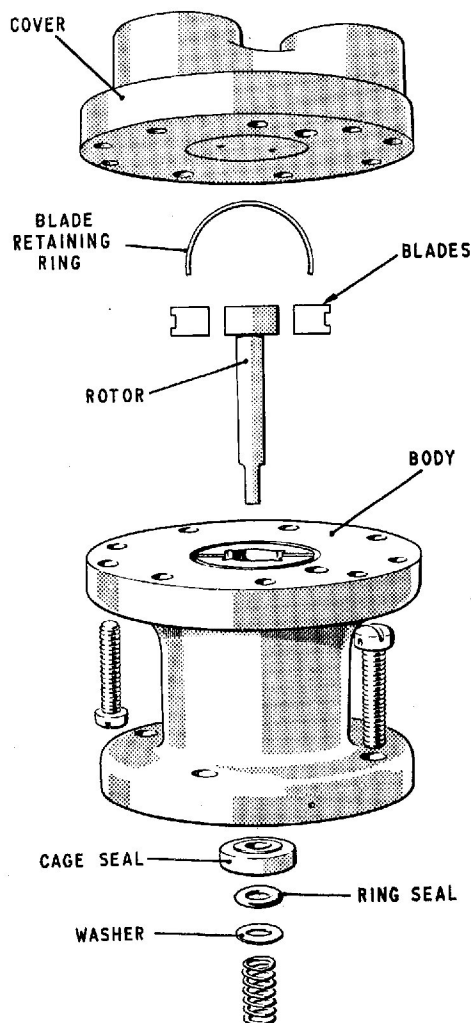

Fig. 2. Exploded view of pump
4. The rotation of the rotor fig. 2 creates a suction within the pump, causing the fluid to be drawn in through the inlet port. The fluid then flows through the hole in the pump body, filling the reservoir which is the common supply for the feeding holes, one at each blade. The fluid fills the cavities formed by the bore in the insert and the drop of the rotor. The fluid is then conveyed around the circumference of the bore by the rotation of the rotor until it is stopped by the blades, which act as dams. The blades are kept in contact with the rotor by the retaining ring. The fluid is forced through the two outlet holes, one at each blade, by the pressure of the rotating lobes and then out to the two outlet ports.